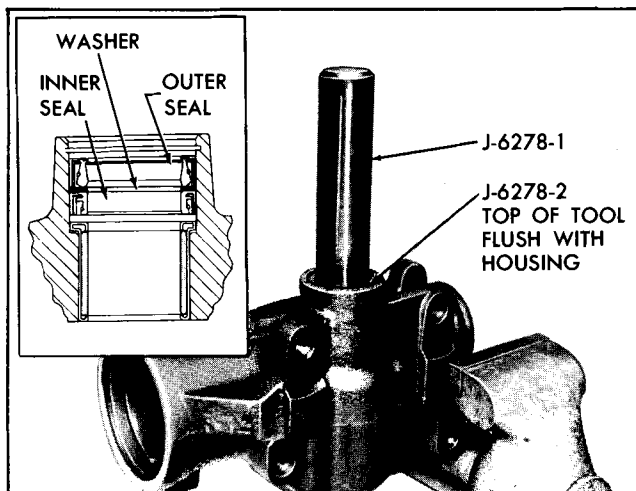

Fig. 9-103 Installing Pitman Shaft Seals
- b. Drive the seals into the housing until the top of adapter J 6278-2 is flush with the housing (Fig. 9-103).
- d. Reinsert tool J 6278 with adapter J 6278-2 and continue driving the seals until the retaining ring seats in its groove (Refer to Inset, Fig. 9-103), then remove the tool and adapter.